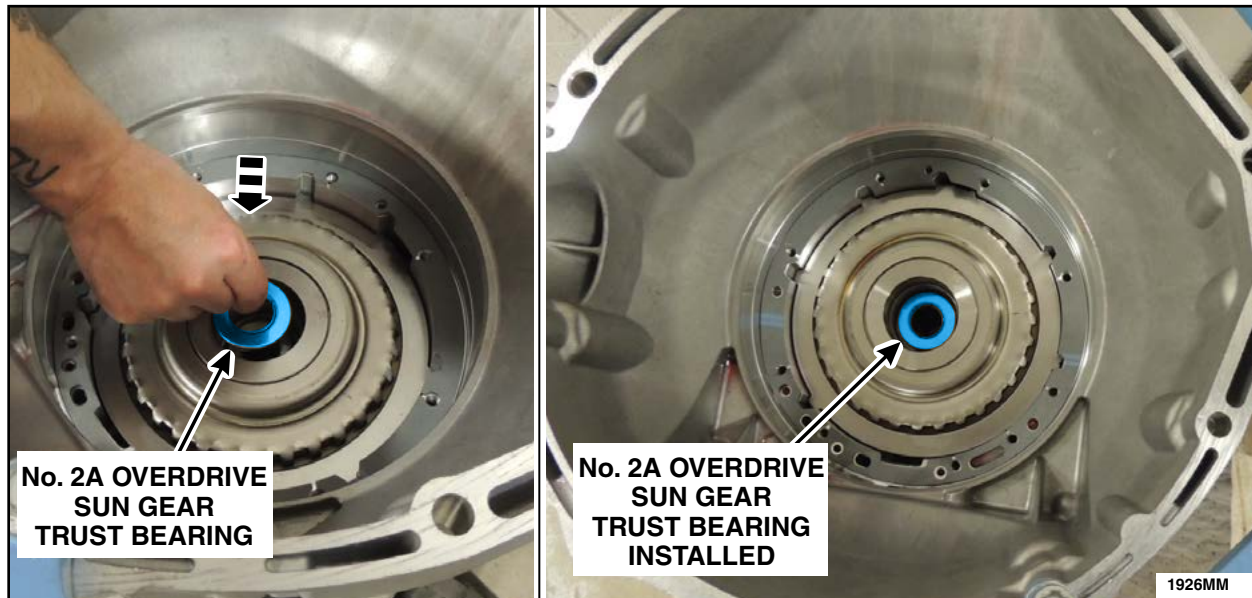

FIGURE 38
35. Install the No. 2A overdrive sun gear thrust bearing. See Figure 38.